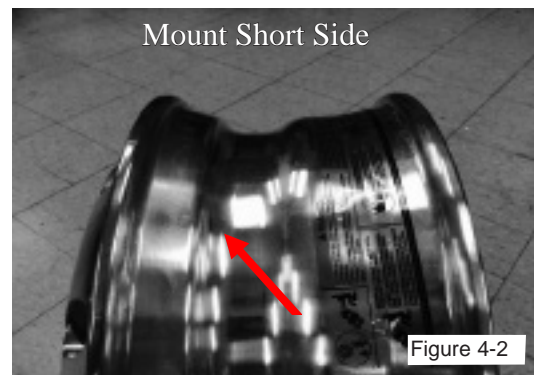

Figure 4-2
5. Identify the short side of the drop center well. Single-piece tubeless rims and wheels must be mounted from the short side of the drop center well. Aluminum wheels typically have symmetrical drop centers so tires can be mounted from either side. However, on certain aluminum wheels, the short side of the drop center well is located on the disc side. See Figure 4-2.